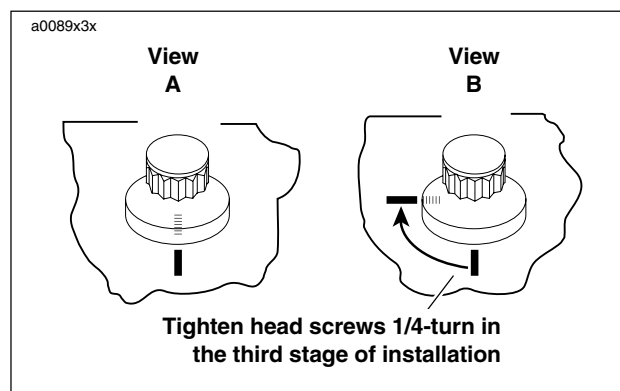

Figure 3-88. Tightening Head Screws
- c. See Figure 3-88. Mark cylinder head and head screw shoulder with a line as shown (View A).